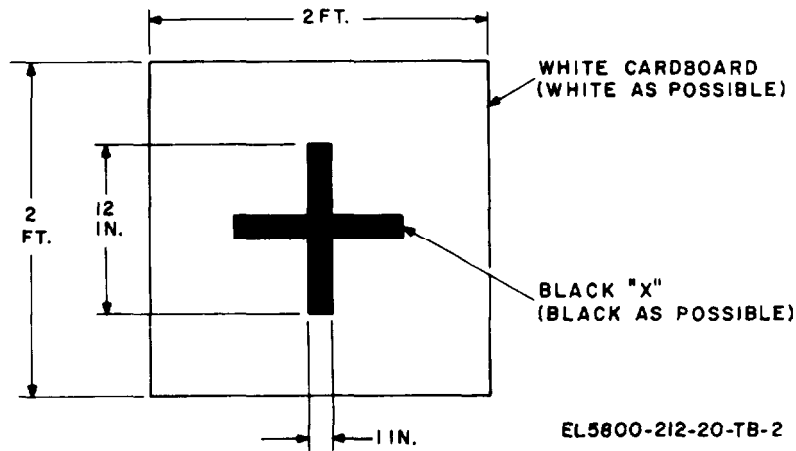

Figure 1. Test Target.
c. Test Target. Construct a cardboard test target. See Figure 1 for details and dimensions.